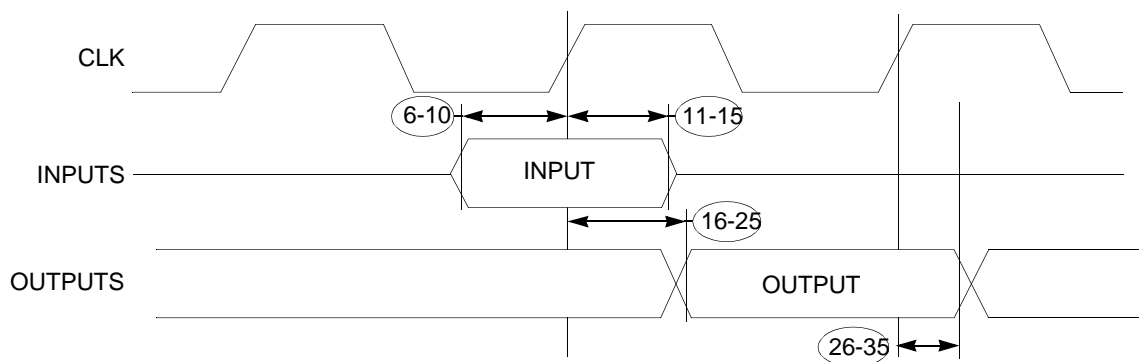

Figure A-2 Input Timing Diagram
($V_{CC} = 3.3 \pm 0.3 V_{dc}$, $GND = 0 V_{dc}$). See Figure A-2.
Table A-4 : MPC509L3M25 Input AC Timing Specifications (Continued)(V_{CC} = 3.3 ± 0.3 V_{dc}, GND = 0 V_{dc}). See Figure A-2.
1. All input specifications are measured from the TTL level (0.8 or 2.0 V) of the signal in question to the 1.4 V of the rising edge of the input CLK. Both input and output timings are measured at the pin. See Figure A-2.
Table A-5 : MPC509L3M25 Output AC Timing Specifications(V_{CC} = 3.3 ± 0.3 V_{dc}, GND = 0 V_{dc}) See Figure A-2.
Table A-5 : MPC509L3M25 Output AC Timing Specifications (Continued)(V_{CC} = 3.3 ± 0.3 V_{dc}, GND = 0 V_{dc}) See Figure A-2.